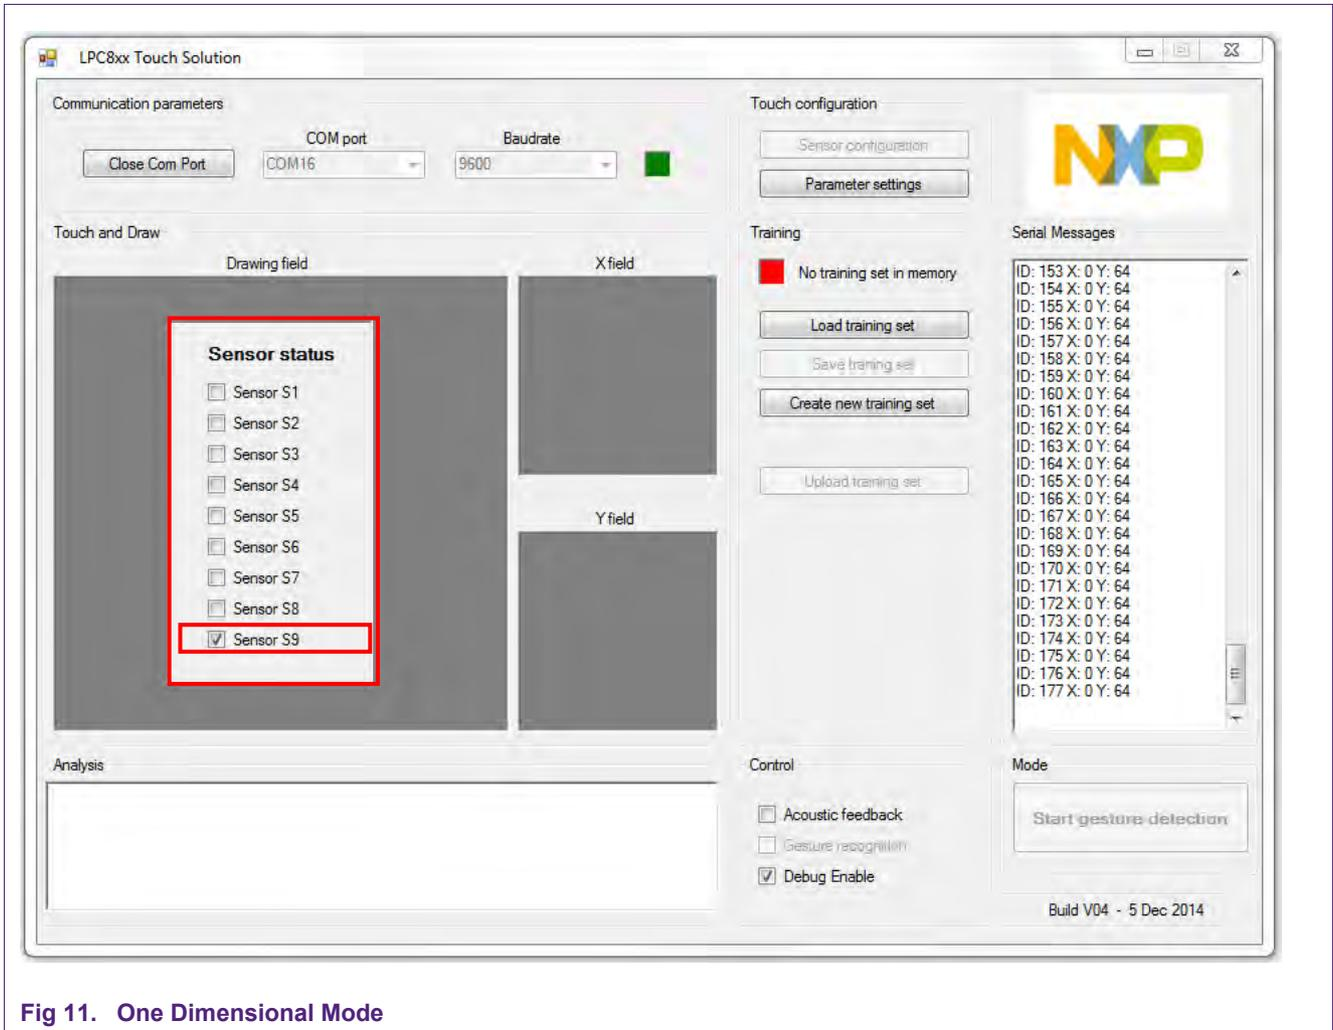

Fig 11. One Dimensional Mode
- The individual Sensor (S1-S9) status can be seen in the Drawing field. See Fig 11.